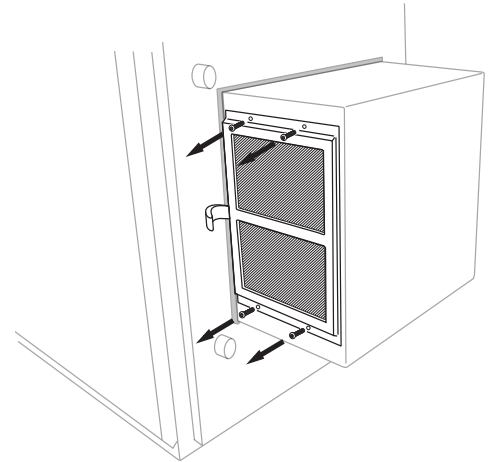

Fig. 4-1, Removing Security Fasteners
1. Remove the (4) hex w/ pin security fasteners (see Fig. 4-1).